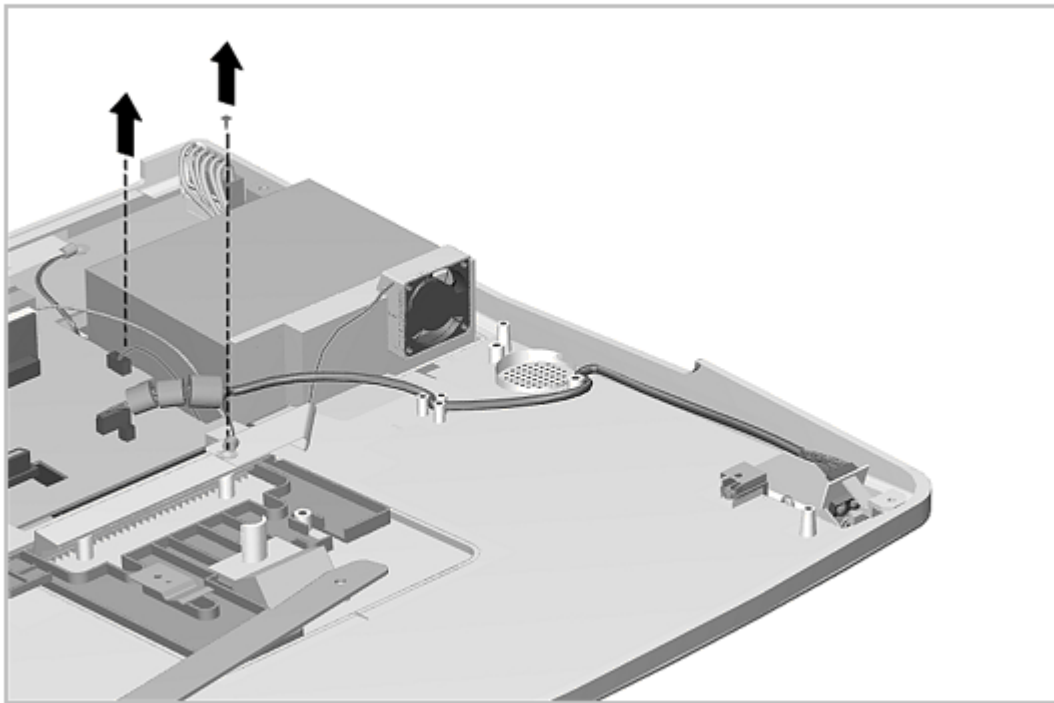

Figure 7-29. Disconnecting the IrDA Board
3. Disconnect the IrDA board cable and ground wire from the main board (Figure 7-29).